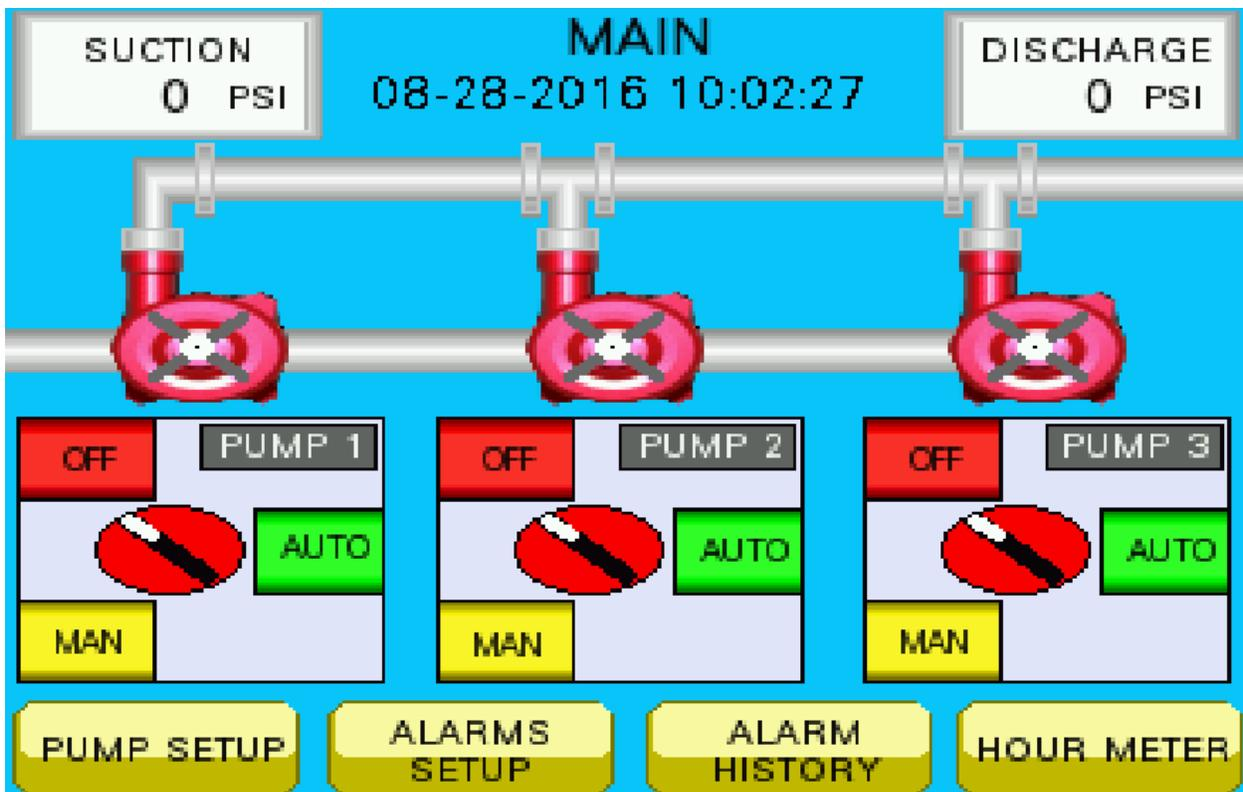

Figure 1.0
1. After power is applied to the unit the system will boot into the main screen like figure 1.0 below. (The screen will display the number of pumps that your system is configured for. The examples in this manual is for the the three pump configuration.)